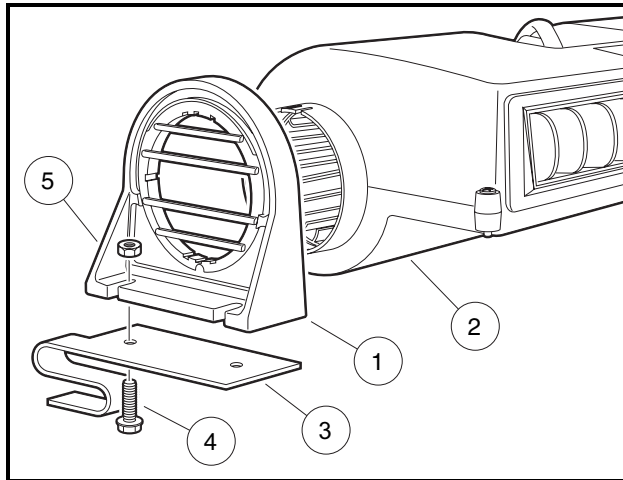

Figure 7 Assemble Blower Brackets
- 2.2. Align slots and firmly press the black plastic brackets (1) onto each end of the blower (2) until they snap into place (**Figure 7**).